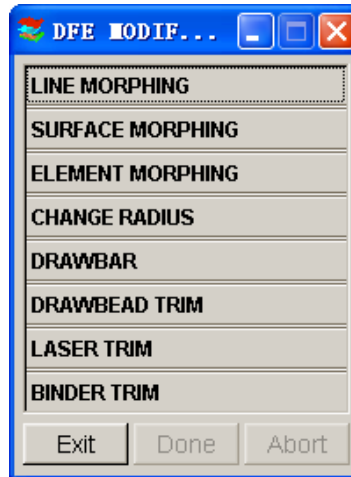
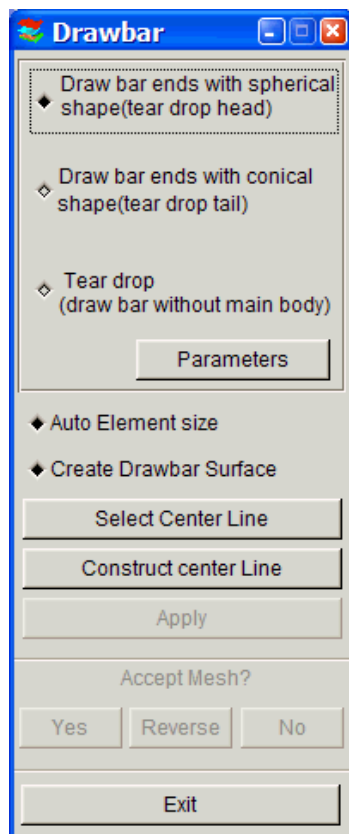
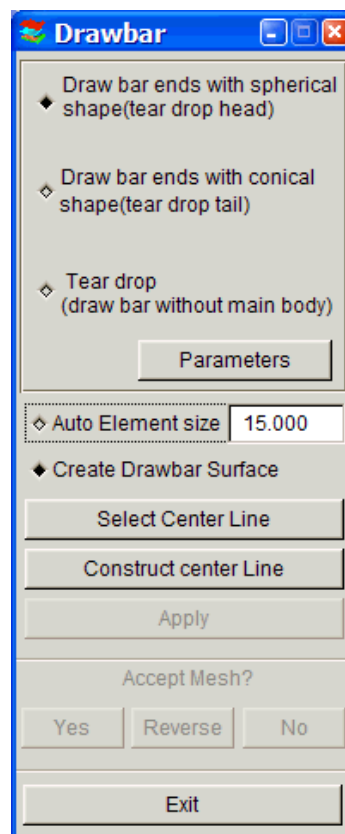

Figure 6.4 Modification Options
Figure 6.4.11a Drawbar with Auto Element Size
Figure 6.4.11b Drawbar With User Defined Element Size
Functions in this menu are used to modify line, surface or element and to complete Die Face design. There are eight functions in this menu as shown in Figure 6.4.
- Click the **DRAWBAR** function, Figure 6.4, and the program will display a dialog window as shown in Figure 6.4.11a. If the user wishes to define the element size of the drawbar, un-check the **AUTO ELEMENT SIZE** option. The dialog window will be changed to Figure 6.4.11b to allow the user to enter the desirable element size.